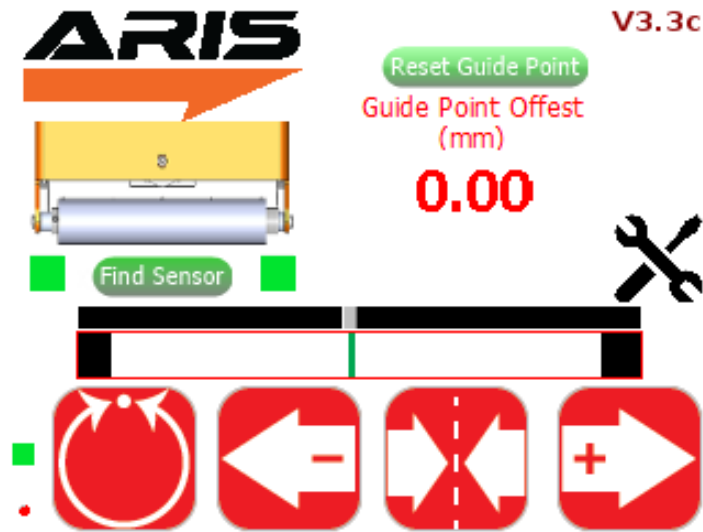

Fig. 11: SCU5 Operator Interface Showing a center sensor
- When two sensors (one left and one right) are connected or if a wide sensor is connected the edge position indicator may indicate both the left and the right edge of the web. The green bar in the middle indicates the centerline position of the web (see Fig. 11).
- If two sensors (one right and one left) are attached to the web guiding system or if a wide sensor with center guiding option is used, both indicators will turn green (see Fig. 11).